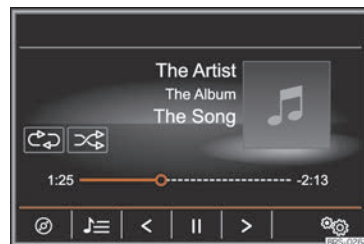

**Fig. 205** MEDIA main menu.
- Press the  function button **»»» Fig. 205.**